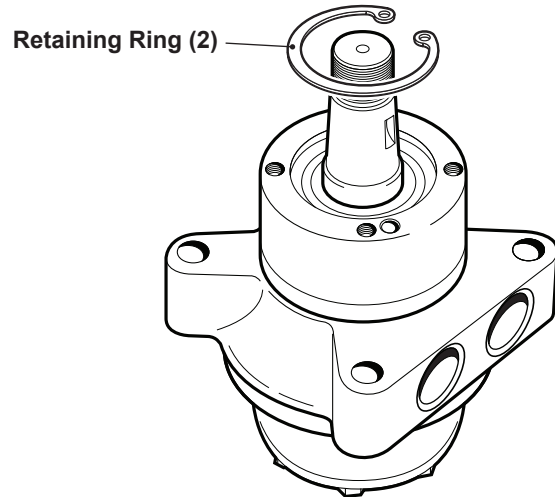

Figure 5, Retaining Ring
4. Remove the retaining ring (2). *See figure 5.*